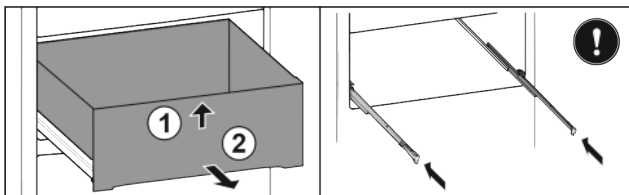

Fig. 35
- ▶ Lift up the drawer at the front Fig. 35 (1).
- ▶ Take off to the front Fig. 35 (2).